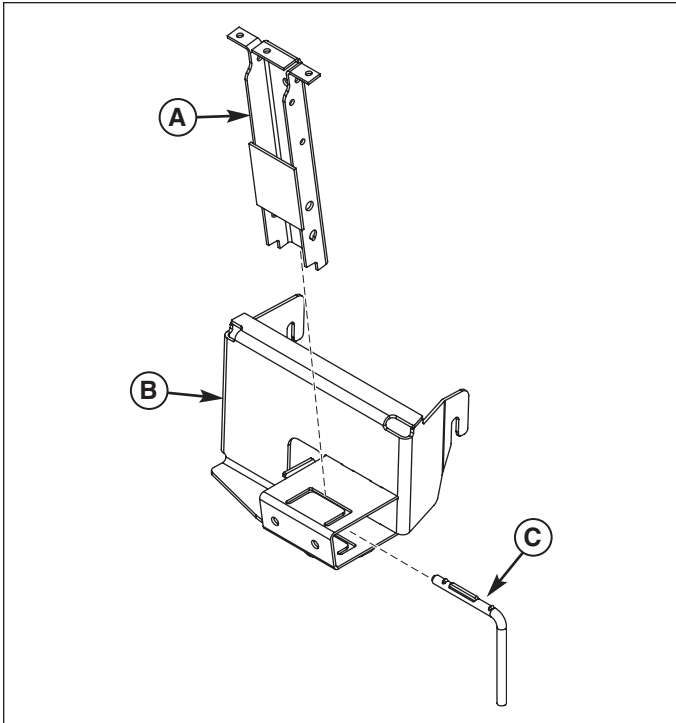
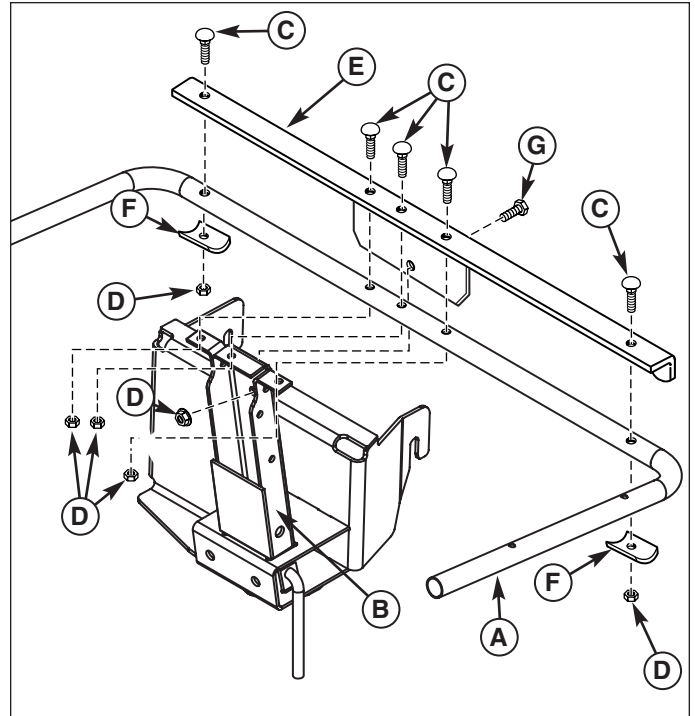

Figure 8. Install Channel Assembly
Figure 9. Install "U" Tube
1. Slide the channel assembly (A, Figure 8) into hitch (B) as shown.
2. Install the pin (C) into the right side of hitch (B) and turn pin (C) counterclockwise to lock in place.
3. Install the "L" channel (E, Figure 9) and "U" tube (A) to channel assembly (B) as shown. Secure with 5/16-18 x 1-3/4 carriage bolts (C), saddle clamps (F), and 5/16-18 nuts (D).
4. Install 5/16-18 x 3/4 capscrew (G) and 5/16-18 locknut (D) as shown.